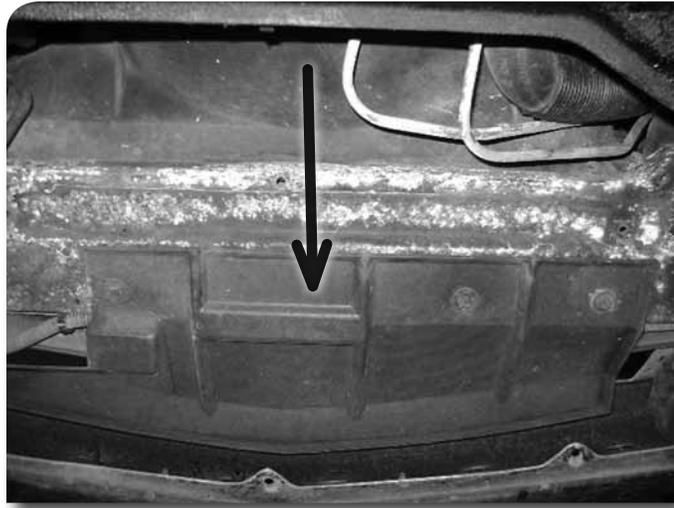

Figure 2
6. Remove lower shroud located between the radiator and the front bumper. Figure 2 This provides access to the inside bumper bolts.